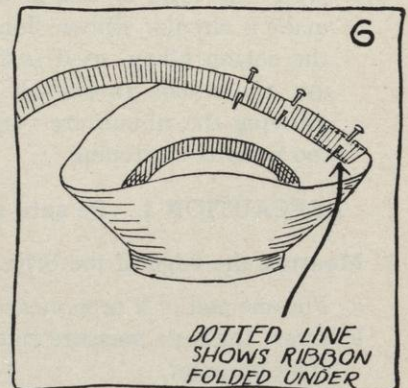

FIG. 6.
- Pin the larger selvage to one quarter of the outer edge of the brim, and in from the edge, or just on it, as desired. By only pinning one quarter of the ribbon, your thread will be kept from catching on pins, and the pins will not fall out (see Figure 6). This also makes the inner edge just fit. If the inner edge seems a little tight, stretch it slightly between the fingers.